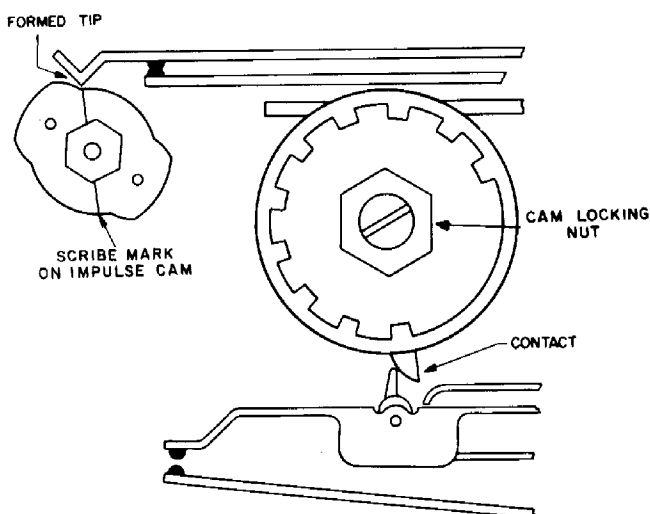

Figure 16. Spotter Spring Adjustment.
10.13 Spotter Cam. Position the spotter cam to just close the spotter springs on a lobe when the formed tip of the impulse spring is opposite the scribe mark on the impulse cam. To accomplish this adjustment, hold the impulse cam with the thumb and allow the cam (as the dial is being returned to normal) to rotate counterclockwise sufficiently past the formed tip so that when the play is taken up in a clockwise direction, the scribe mark is in line with the formed tip. Tighten the cam locking nut and recheck the cam setting (Figure 16).